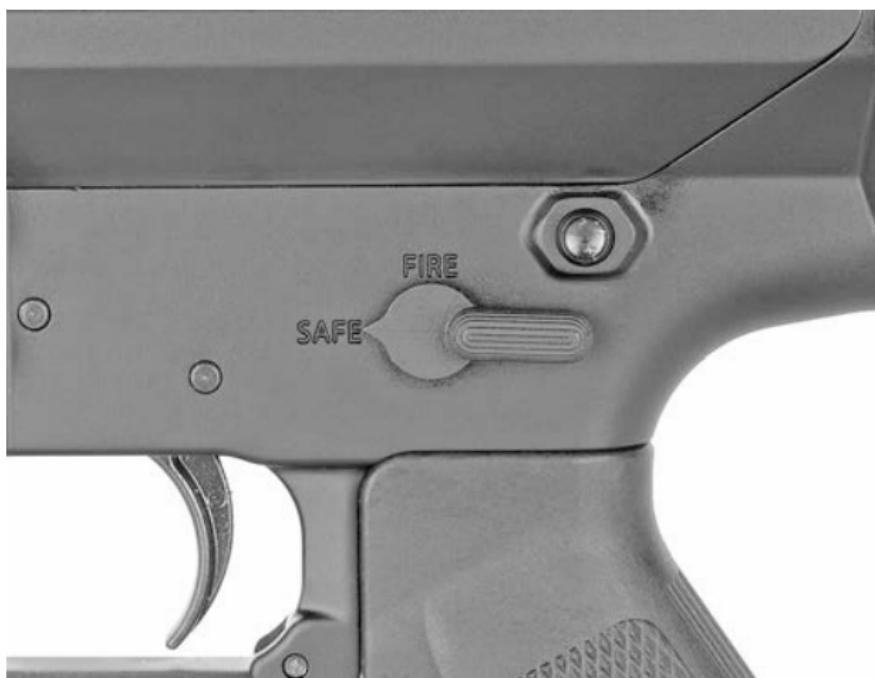

Figure 45
- ⚠ 2. Verify the safety selector is on SAFE. See figure 45.